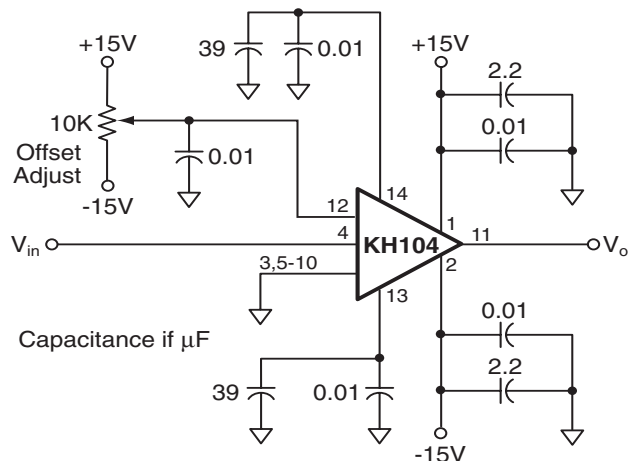

Figure 1: Basic Circuit
DC offset of the KH104 may be adjusted by applying a DC voltage to the amplifier's offset adjust pin (12). The simplest method is shown in Figure 1. Using this method of offset adjust it is possible to vary the output offset by approximately $\pm 400\text{mV}$. This simple adjustment has no effect on the offset drift characteristics of the KH104.